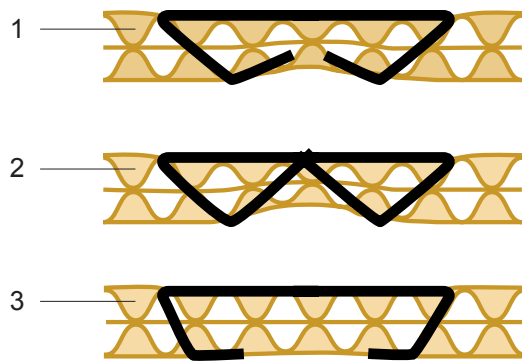

Fig. 8
1. Press the magazine lid backwards and release the latch. Lift the lid at the same time upwards and then backwards(Fig.8/1)